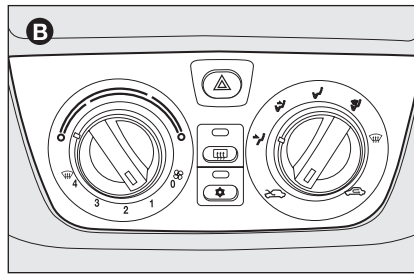

fig. 5
- with manual climate control system **B-fig. 5**;